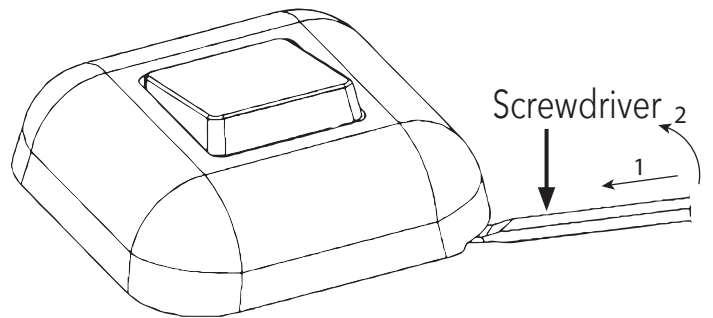

Figure 8: Removing the bezel
2. Insert a small flat head screwdriver into the space shown in Figure 8. Gently pry up the bezel until it releases, then remove it from the housing.